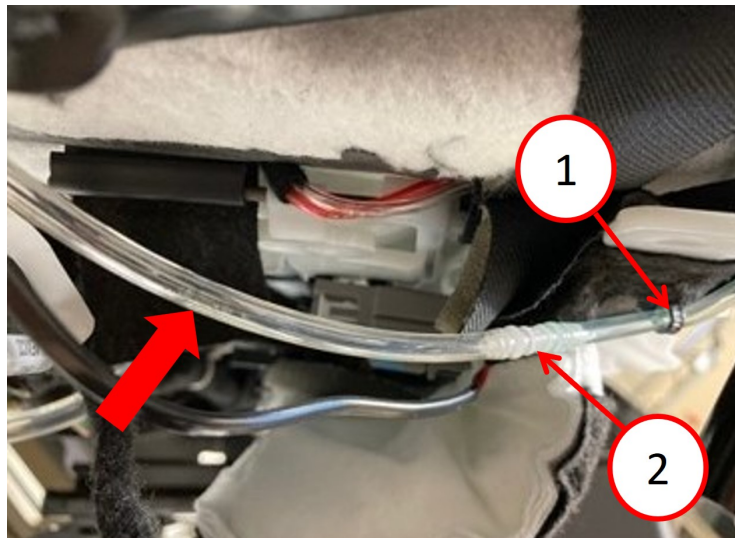
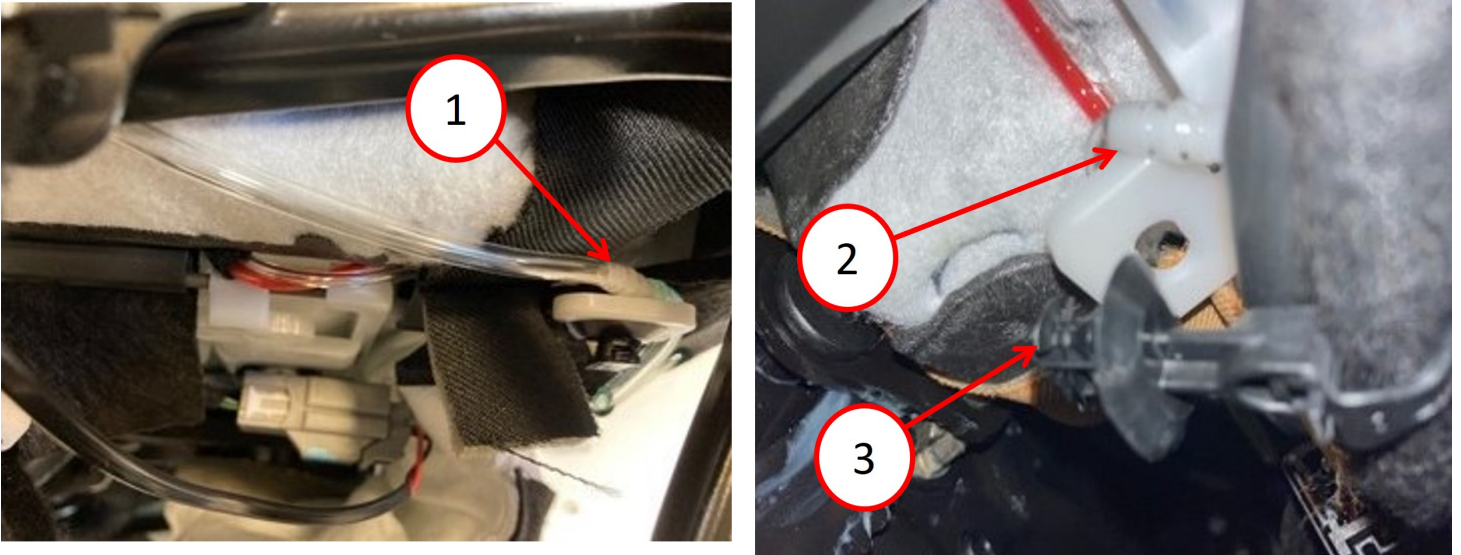

Fig. 5
Fig. 6
8. Locate the clear supply hose with white hose fitting (Fig. 5) . A properly routed clear hose should be hanging down, visible and hanging under the seat cushion (Fig. 5) . **If any hose kinks are found (Fig. 6) , reroute the hose so the kink is not present.**